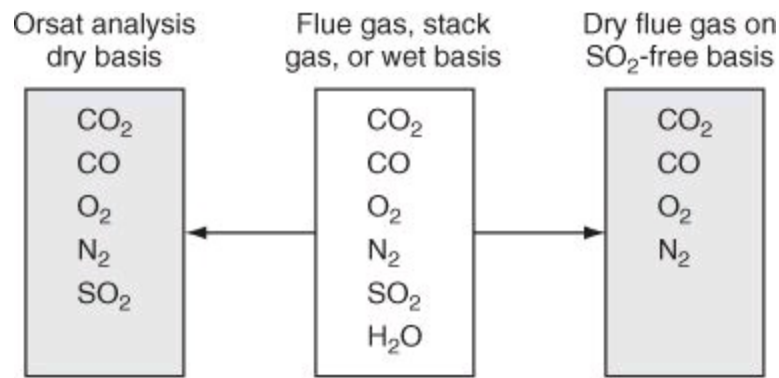

Figure 5.5. Comparison of gas analysis on different bases
- **Orsat analysis, or dry basis:** All of the gases resulting from a combustion process *not including the water vapor*. (Orsat analysis refers to a type of gas analysis apparatus in which the volumes of the respective gases are measured over and in equilibrium with water; hence each component is saturated with water vapor. The net result of the analysis is to eliminate water as a component that is measured.) See Figure 5.5. To convert from one analysis to another, you have to adjust the percentages of the components to the desired basis, as explained in Chapter 2.